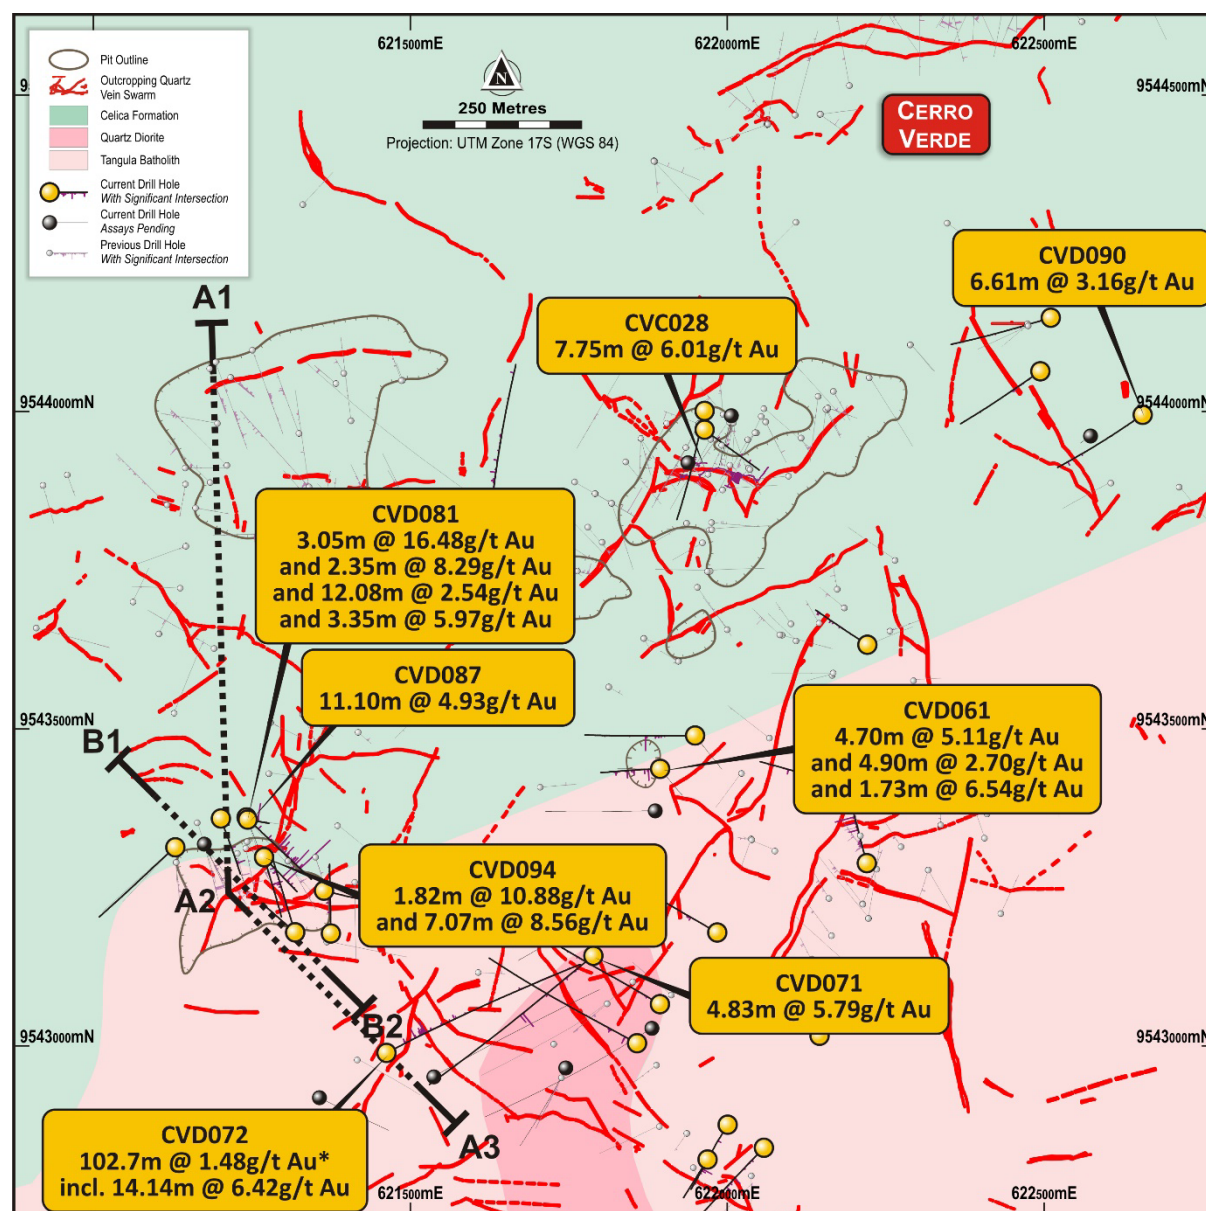

Figure 2: Cerro Verde prospect drill collar location with better reported intercepts on diagrammatic geology interpretation.
- 43.06m @ 2.56g/t gold with 6.95g/t silver was intersected from 72.82m in drill hole CVD072, previously reported with partial assay results (refer to ASX release dated 17 December 2021) Veins in the mineralized corridor above CVD072 include the Estrella, La Herradura, La Colorado and Clavo vein sets trending from northwest to northeast in orientation. The CVD072 intersects multiple veins which persist above and below the 43.06m at 2.56g/t Au, and an additional 12m of sampling proximal to this interval have been recently received, amending a broader intercept previously reported at a 0.3g/t Au cut-off to 102.7m @ 1.48g/t gold from 46.5m depth (refer to Appendix A, Figures 2 and 3).
Figure 3: Fence Section across the 1.6km wide Cerro Verde Prospect spanning across two zones of previous trial mining (at the Esperanza-Venado pits and Comanche-Brecha pits) and extending south to recent intercepts at CVD072. (Refer to Figure 2 for section location)
- 6.37m @ 1.53g/t gold and 9.94m @ 1.42g/t gold intersected from 110.33m and 133.42m depth respectively among multiple other reported intercepts in hole CVD093 (Refer to Appendix A and Figures 2 & 5) highlight a widening of the mineralised corridor identified as the Comanche-Brecha zone.
Figure 5: Comanch-Brecha Vein Zone cross section on extension to mineralisation west of Comanche Brecha trial mining pits (refer to Figure 2 for section location).